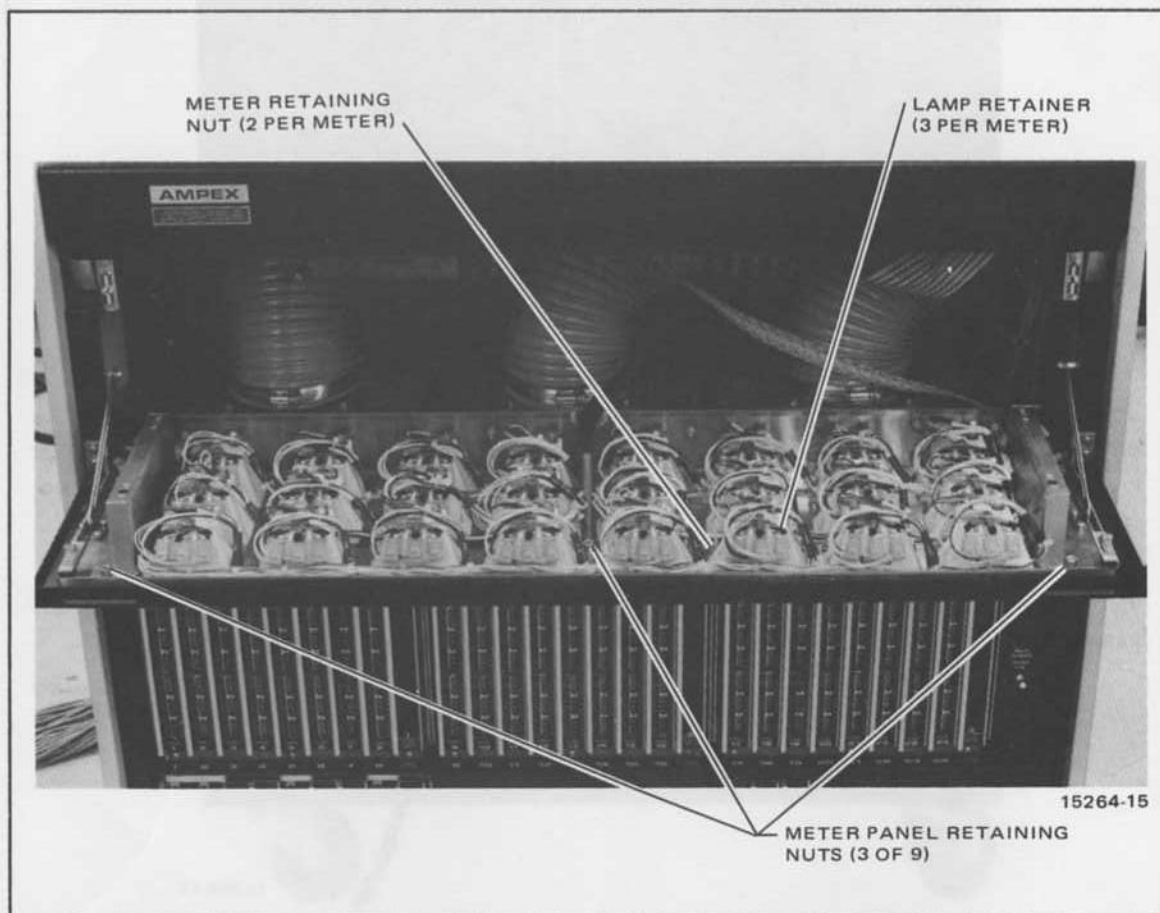

Figure 5-42. Replacing VU Meter Lamps/Meter
To replace VU meter lamps, refer to Figure 5-42 and proceed as follows:
- STEP 3 Remove VU meter front trim panel by removing the retaining nuts (Figure 5-42). Note: Do not allow the trim to fall and thereby be damaged.